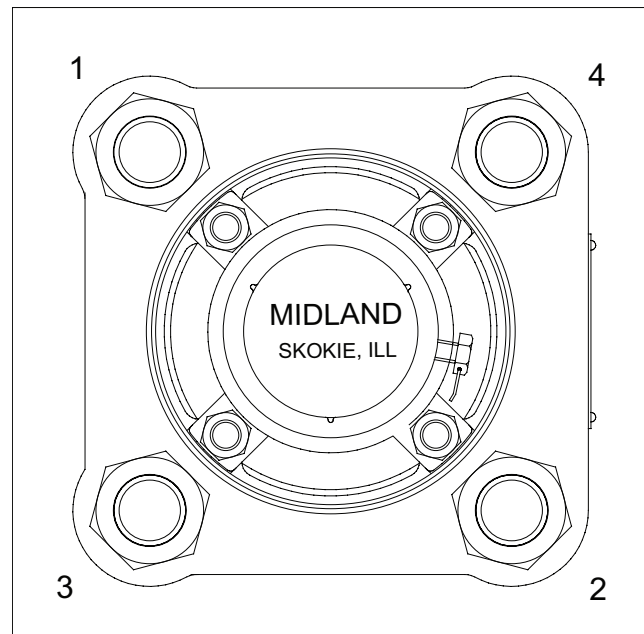

Figure 4 - Mounting Nut Tightening Sequence
1.3.1 Install the nuts and tighten them in 1/3 torque increments in a diagonally alternating sequence to a torque specified by the gasket specifier, as shown in Figure 4.